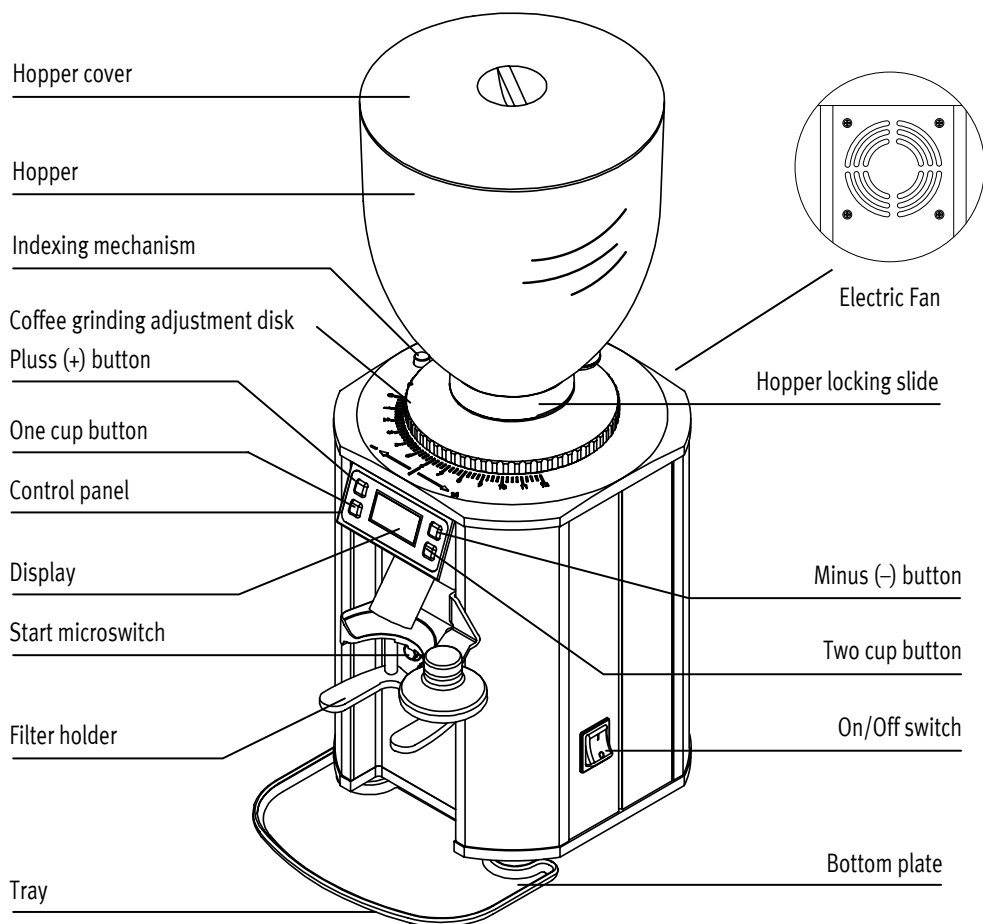

Figure. 1
- THE HOPPER MUST BE FASTENED TO THE GRINDER BY MEANS OF THE RELEVANT SCREW which must be inserted in the threaded hole located on the coffee grinding Adjustment disk (fig. 1).
Check that the hopper is positioned correctly on the appliance. Close the Hopper locking slide (fig. 1) and fill the hopper with coffee beans. Open the slide to allow the coffee beans to fall in the grinding chamber.
Use the **Adjustment disk** located under the hopper (fig. 1), for obtaining a finer or coarser grinding result.
The Adjustment disk is functional only when the Indexing mechanism (fig. 1) is hold down.
The appliance's motor is protected against overheating by a thermal protection which, when tripped, cuts off the motor's power supply. If the protection trips as a result of anomalous operation, such as jamming the grinding blades, the appliance must be turned off using the ON/OFF switch (fig.1), DISCONNECTED FROM THE MAINS, AND CONTACT A LICENSED TECHNICIAN.
- Close the **Hopper locking slide** (fig.1).
- By keeping the **Indexing mechanism** pressed at all times, turn the **Coffee grinding adjustment disk** (fig.1) anti-clockwise until it is fully released.
- By keeping the **Indexing mechanism** pressed at all times, turn the **Coffee grinding adjustment disk** (fig.1) clockwise until it is tightly fastened.
- Check that the Coffee grinding adjustment disk indicator (fig.1) is close to O.
- By keeping the **Indexing mechanism** pressed, turn the **Coffee grinding adjustment disk** (fig.1) anti-clockwise, until its indicator is indexed to 1.
- Start the machine by pressing the start micro switch (fig. 1), **JUST ONCE**. If you hear the sound of metal scraping turn the **Coffee grinding adjustment disk** (fig.1) anti-clockwise until its indicator is indexed to 2.
- Start the machine again by pressing the start micro switch (fig.1), **JUST ONCE** to make sure that you do not hear any sound of metal scraping.